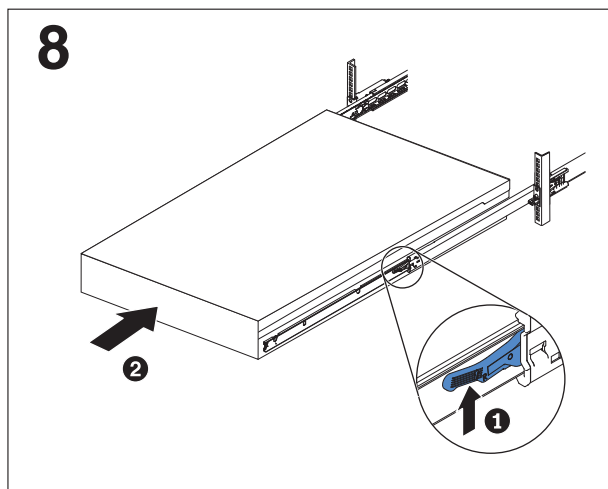

Figure 50. Raising the SAN Volume Controller 2145-DH8 locking levers of the slide rails of the rack
2. Lift the locking levers (**1** in Figure 50) on the slide rails and push the server **2** all the way into the rack until it clicks into place.